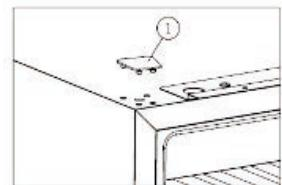

Figure 3
- Enlevez le couvercle ① [Figure 3]